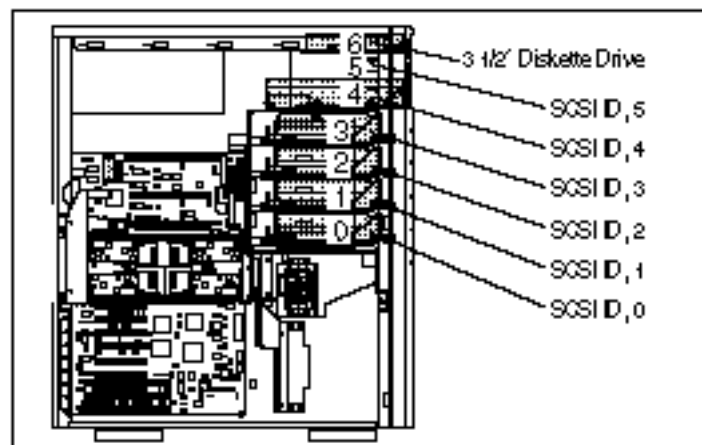

Figure 2-17. Assigned SCSI IDs
- The SCSI ID for each hot-pluggable hard drive is set as shown in Figure 2-17.